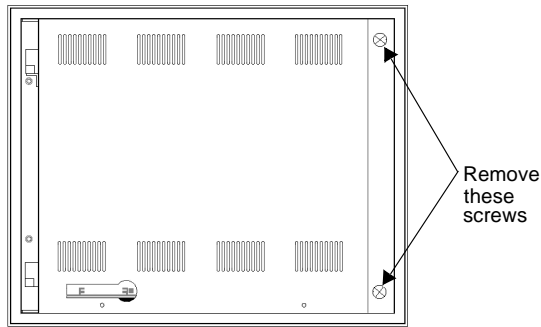

Figure 1: Opening the Backshell
4. Remove the two screws securing the backshell to the faceplate assembly, as shown in Figure 1 on page 2.